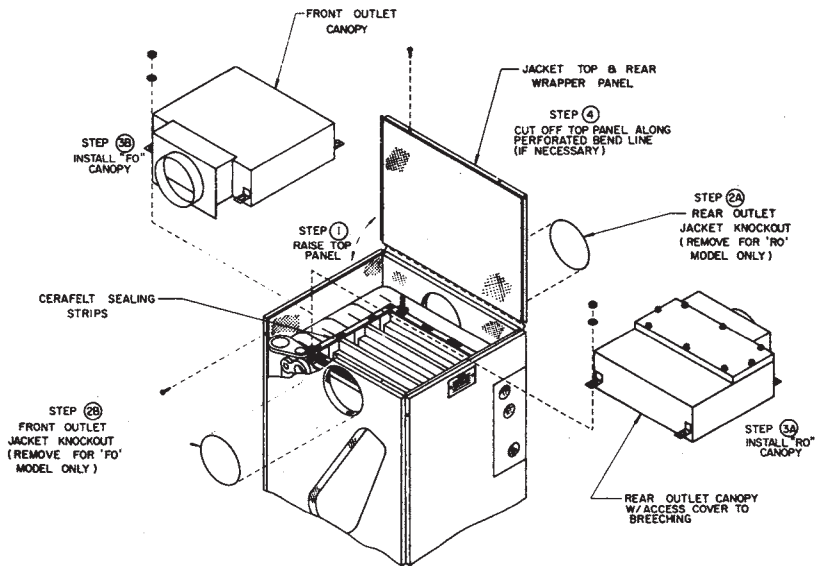

Figure 3: Installation of Canopy
2. Remove two (2) sheet metal screws at the front (4) sheet metal screws on the upper end of the side panels and swing jacket top panel upward as shown in Figure 3, Step 1.
4. Using screwdriver and pliers, remove the 6½" knock out from the rear panel, AS SHOWN IN Figure 3, Step 2.
5. Insert the canopy onto the top of the block and fasten with the four (4) bolts and nuts provided as shown in Figure 3, Step 3. Be sure that the canopy tightens evenly onto the cerafelt gasket.
6. Before replacing jacket top panel, determine if future access to the chimney breeching through the canopy opening is anticipated. If so, cut along perforated bend line to separate jacket top panel from the rear panel as shown in Figure 3, Step 4. Close or replace top panel and secure with sheet metal screws removed in (b) above.